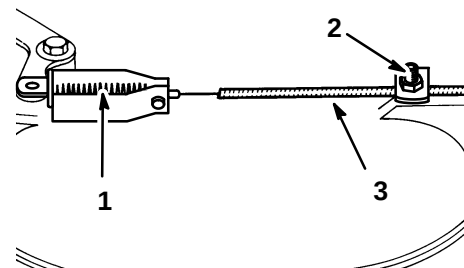

Figure 23
2. Loosen cable clamp screw until brake cable conduit slides (Fig. 23). Pull cable to remove slack, but do not put tension on spring. Tighten screw to lock adjustment in place.